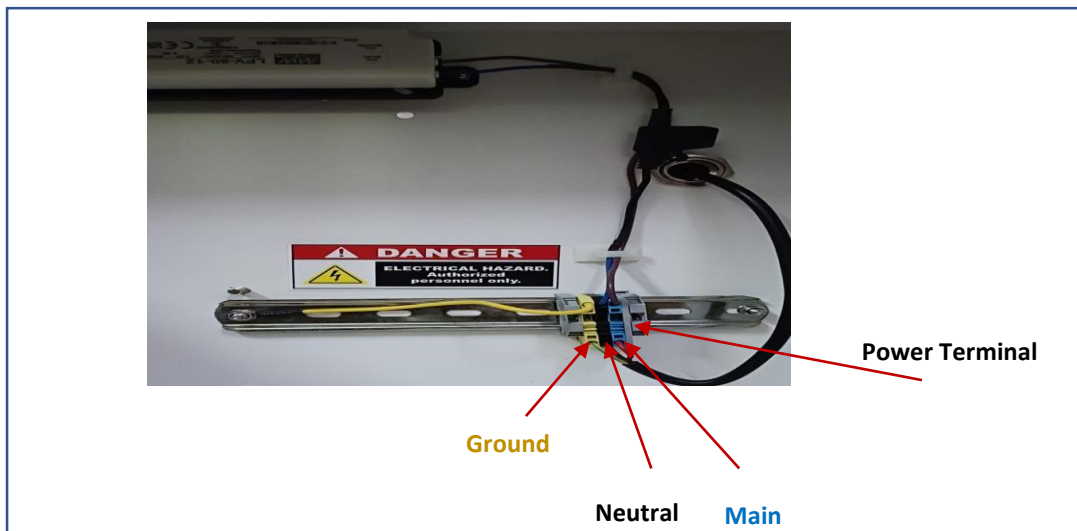

Fig.17
STEP 2: Give main power connection to the sign as mentioned in Fig.17